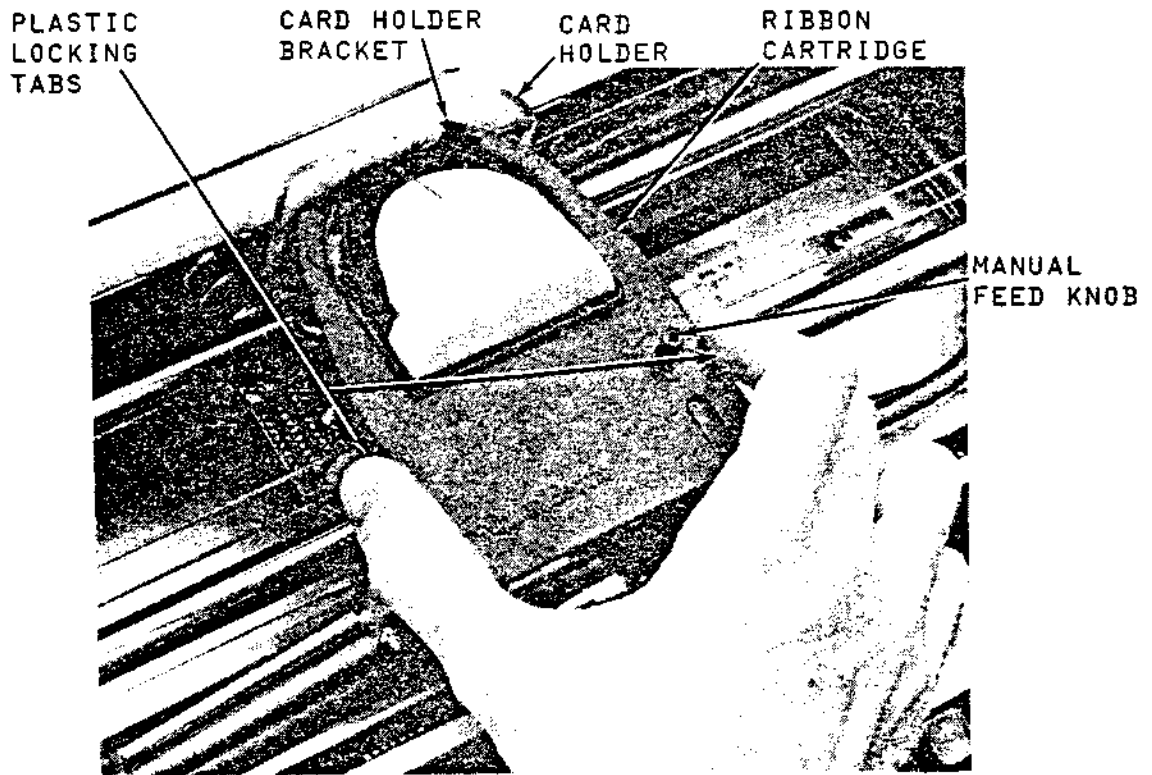

Figure 3-1 Ribbon Cartridge Removal
- b. Hold the ribbon cartridge lightly; at the same time press the two locking tabs which hold the cartridge in place; remove the cartridge upward (see Figure 3-1).